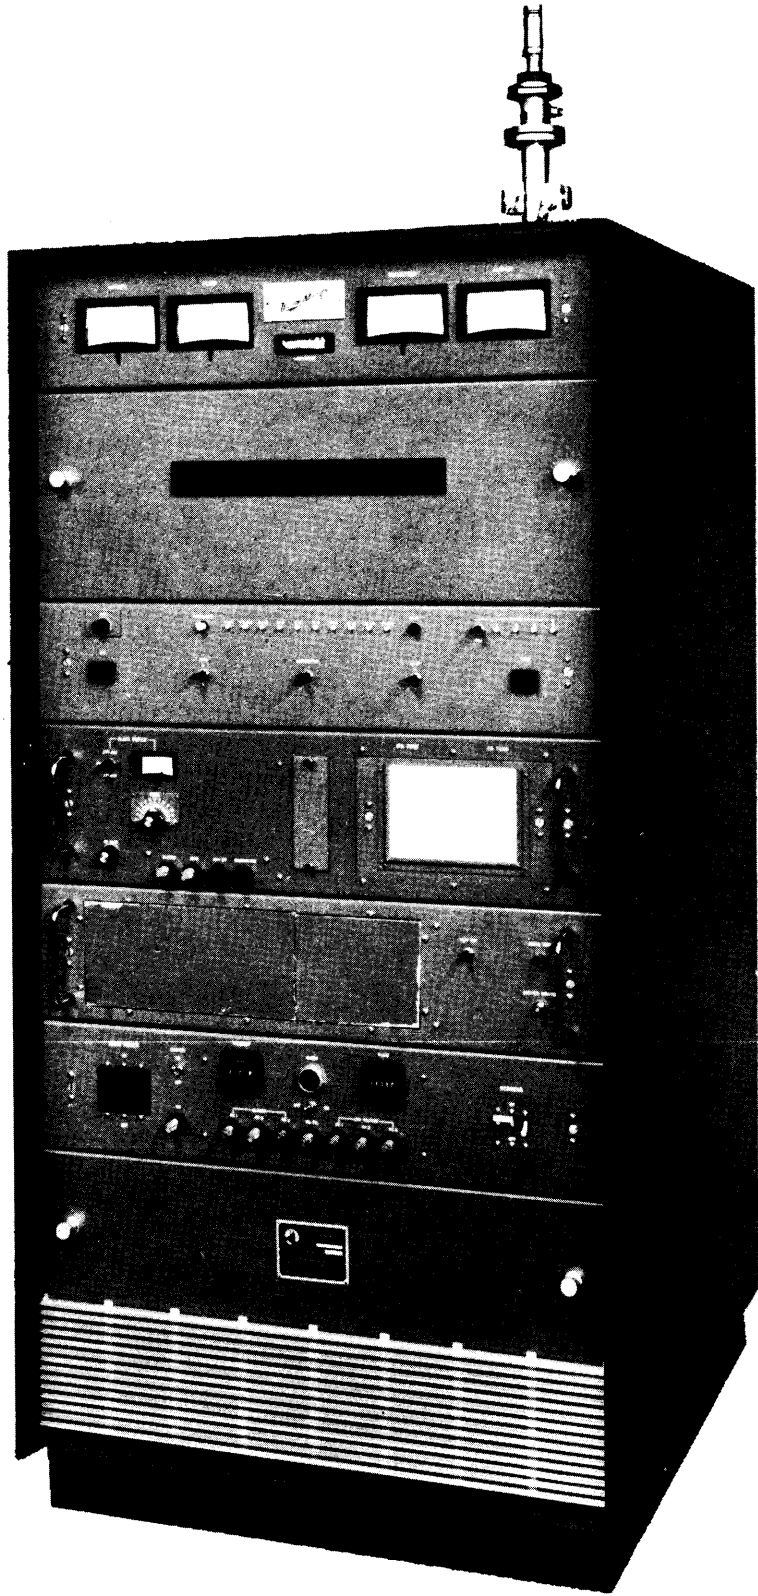

Figure 1-1. High Frequency Linear Power Amplifier HFLM-10K
a. General - As shown in figure 1-1, the Linear Amplifier consists of a single frame, housing all the components of the transmitter. Primary power connections are made through the access hole on the base assembly. Linear amplifier RF power is routed through a directional coupler mounted in the opening located on the top of the frame. The frame houses an exciter drawer, a two-stage broadband linear amplifier, an intermediate power amplifier, a 10 kw power amplifier, and associated power supplies and control circuits. The rf components are distributed through the upper portion of the frame, and the heavy power supply components are bolted to the base channels of the frame.
c. Power Amplifier (PA) - The power amplifier section mounted directly below the main meter panel contains the variable TUNE and LOAD capacitors, PA BANDSWITCH and the power amplifier tube. The power amplifier tube is a high powered tetrode, Model 8794, connected in an rf grounded grid configuration, operating class AB1, and delivers up to 10 kilowatts of power. The output circuit is a modified parallel L circuit designed to match an unbalanced antenna of 50 ohms with a VSWR to 3:1.